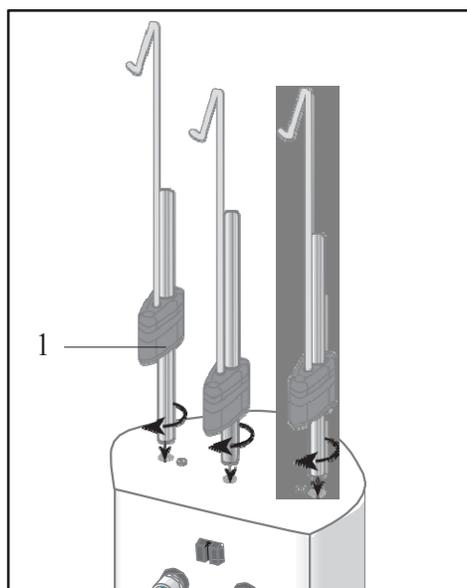

Fig 1.11: Attach bag hangers.
9. Attach bag hangers. Tighten rods with clockwise twists until hand tight (see Fig 1.11). The height of the bag hangers can be adjusted by pressing the bag hanger clamps (1, Fig. 1.11).